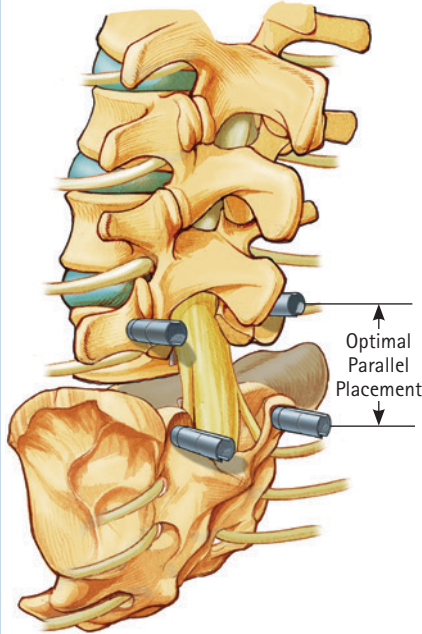

Fig. 6
- Within the limits of the patient's anatomy, the screws in the cephalad vertebral body are best placed parallel to its superior endplate and as parallel to each other as possible (Fig. 6 & 7). Place the caudal vertebra screws so that they are parallel to the cephalad vertebra screws in both planes (as compared to the standard convergent manner) (Fig. 6 & 7). Placement of screws in this way allows for optimal operation of the reduction instrument and provides for easier rod placement.